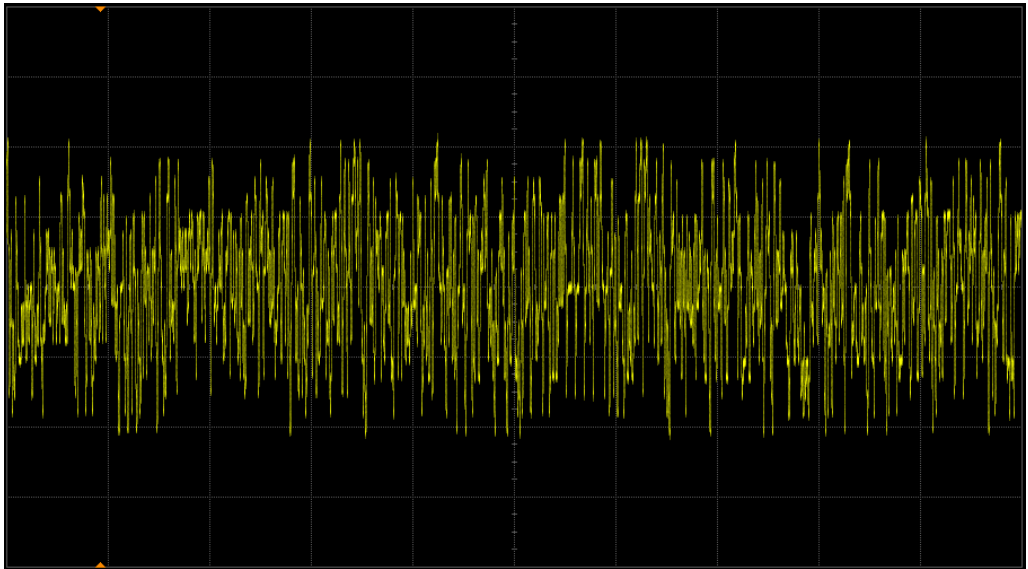

Figure 15 Example of Transmitter Test Mode 4 Waveform (1 Cycle)
- 1 Configure the DUT to output the Test Mode 4 signal. An example of this waveform is shown in Figure 15.